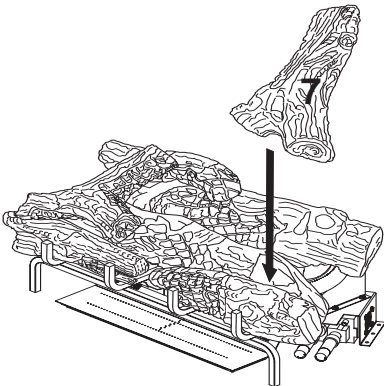

**Figure 43- Final Assembly**
- Match the round hole on the bottom of the center crossover log (#8) with the metal pin on the top of the right crossover log. Rest the front of the center crossover log on top of the front right log and against the grate as shown in Figure 42. See Figure 43 for final assembly.